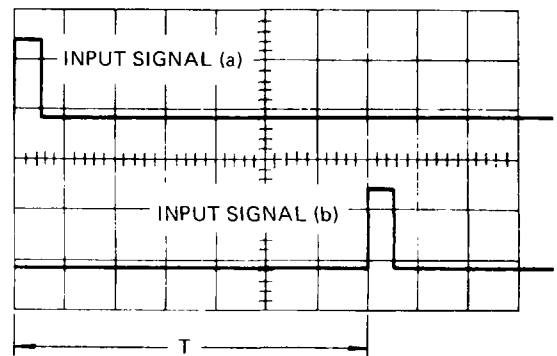

Figure 2-7 Time Difference Measurement
(2) Time Difference. The time difference between two signals may be measured in several ways. Using alternate sweep or chopped mode, and internal triggering, the TRIGGER switch should be set to the channel which has the initially occurring waveform. Use the position controls to place the first waveform at one of the vertical graticule lines (see Figure 2-7). The time difference is the product of the horizontal distance between the two points and the sweep time/cm setting. The ADDED position of the MODE switch may also be used to produce a single trace if this is advantageous.
(3) Risetime Measurement. Measurement of rise or fall times in pulse waveforms is identical to the time interval measurement previously described if the risetime is greater than five times the oscilloscope risetime (3.5 ns). For a 5:1 ratio of actual pulse risetime to oscilloscope risetime, the error is approximately 2% and generally can be neglected. For faster risetimes (smaller ratio) the error becomes large